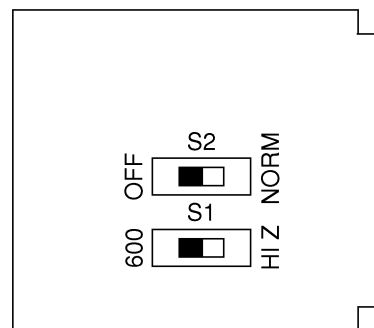

Figure 3-1 Switch Positions
- 3.5 Two option switches must be set before the 4018 is placed in service. The locations of these switches are shown in Figure 3-1. Option switch S1 selects the input impedance, which may be either 600 ohms (terminating) or high impedance (bridging). Set S1 to the 600 position for 600-ohm terminating impedance, or to the HI Z position for bridging operation. Switch S2 is used to enable or disable the noise threshold circuit. Set S2 to the NORM position if quieting is desired, or to the OFF position if the noise threshold circuit is not to be used.